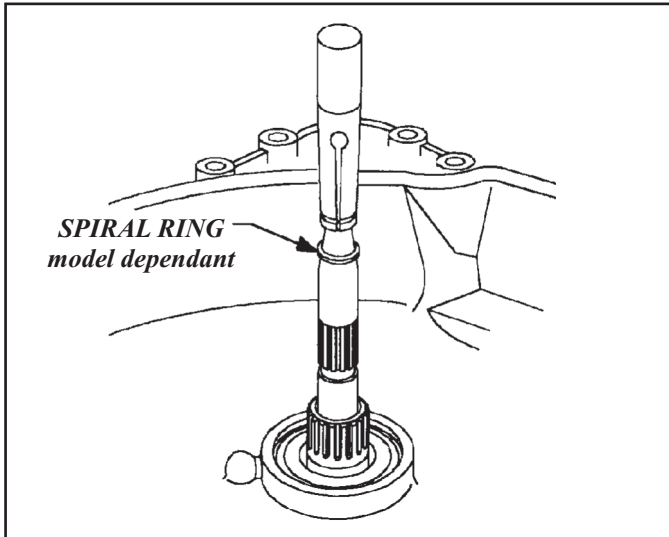

Figure 223
62. If the spiral ring was removed, install a new spiral ring using Saturn's installation tool SA9135T or equivalent as shown in Figure 223.